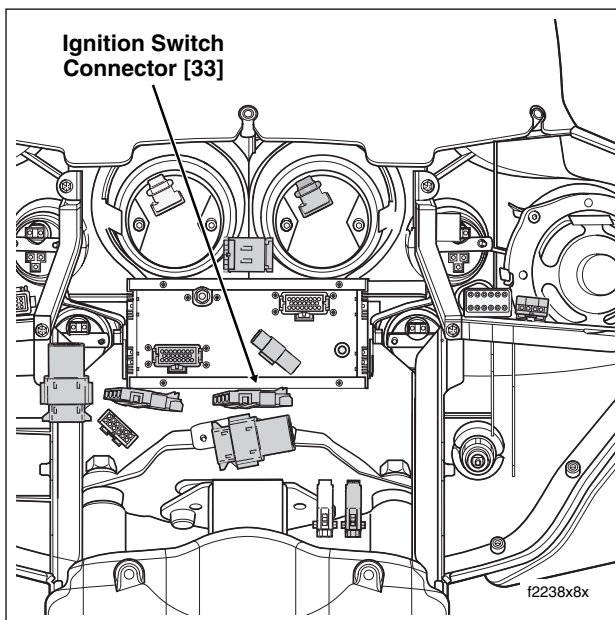

Figure 8-64. Ignition Switch Connector Location (FLHT/C/U)
8. Locate the Ignition switch connector [33], 4-place Packard, at bottom of radio. Slide connector off anchor and separate pin and socket halves. See Figure 8-64.
2. Route the Ignition switch connector [33], 4-place Packard, to front of inner fairing. Mate pin and socket halves of connector and install onto anchor at bottom of radio. See Figure 8-64.